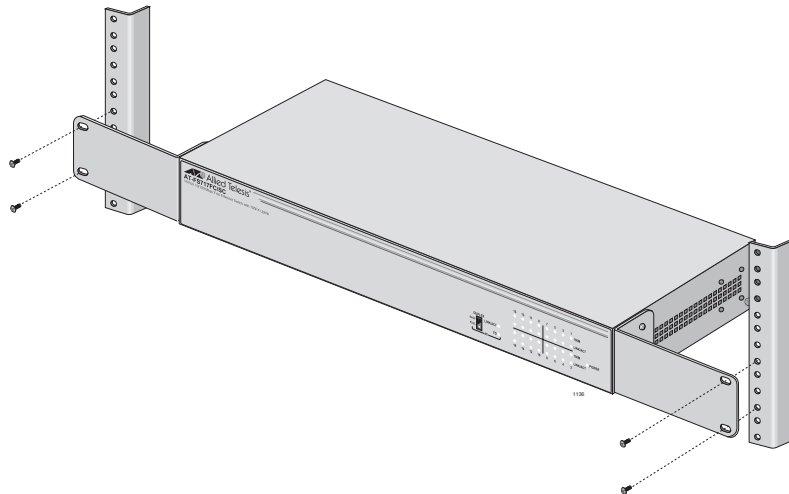

Figure 9. Rackmounting the Switch
3. Mount the switch in a 19-inch rack using rackmounting screws (not provided), as shown in Figure 9.